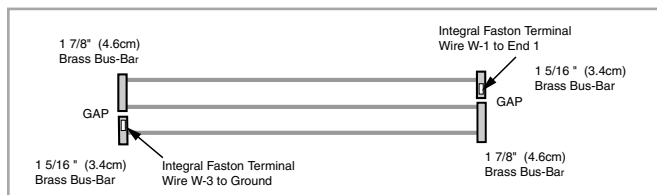

Figure 1. Grid layout and bus bar placement
2. When all elements are placed and the paper removed apply the double stick tape OVER the copper heating elements **allowing at least one inch of overlap.** Place the bus bars on the tape. Be sure to carefully note the gaps and direction of the tabs when placing these bars. See Fig 1.